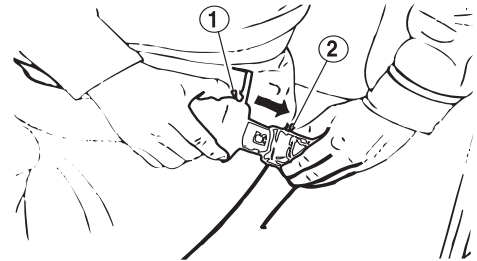

Fig 87
Insert belt end (1, Fig 87) into buckle (2). Pull belt to check that belt end is locked into buckle.